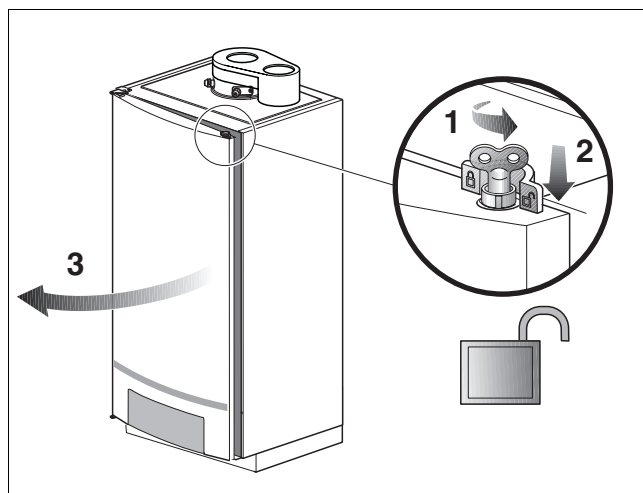

fig. 2 Opening the boiler door
- Open the boiler door by turning the vent key through $\frac{1}{4}$ rotation (fig. 2).